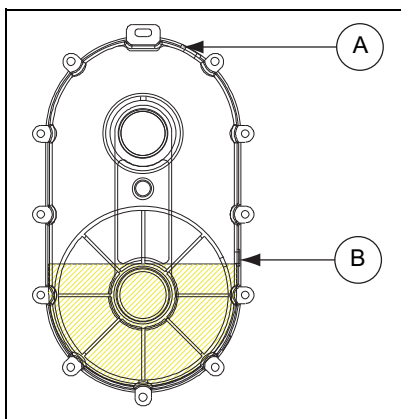

Figure 4A Enclosed Drive
1. First, fill the chain reducer drive with oil by removing the vented fill plug and pouring 48 oz. of oil into drive. Oil level can be checked by removing the check plug. Oil should not be over the check plug. (See Figure 4A.)
2. Install pivot bracket (O) to bottom of motor mount frame (N) using a 3/4" x 11" long (grade 5) hex head cap screw and nylon lock nut (P).
3. Attach the electric cord support stand (E) and one side of the motor mount support plate (H) to the motor mount frame (N) using two (2) 1/2" x 1-1/2" long (grade 5) hex head cap screws with lock washers and hex nuts (J). Attach the other side of the motor mount support plate (H) to the motor mount frame (N) using two (2) 1/2" x 1-1/4" long cap screws with lock washers and nuts (I).
4. Mount the chain reducer drive (K) to the mounting ring on the motor mount frame (N) with four (4) 3/8" x 1" long (grade 5) hex head cap screws and nylon lock nuts.
5. Screw the 3/4" threaded adjusting rod (G) down through the nut welded to the top of the motor mount support plate (H). Leave the adjusting rod (G) an inch or two (2) above the top surface of the motor mount support plate (H). The adjusting rod will be adjusted later after the drive belts are installed.
6. Thread a 3/4" hex nut onto the bottom end of the adjusting rod (G) underneath the motor mount support plate (H). This nut is for locking the adjusting rod in place after adjusting it to the required position to tighten the drive belts. **DO NOT** tighten this nut against the motor mount support plate until the belts have been installed and tightened.
7. Align the pivot holes (D) of the motor mount plate (C) with those in the motor mount support plate (H) and slide the pivot rod (F) through the holes. Insert a 3/16" cotter pin into the holes in each end of the pivot rod (F) to keep it in place.